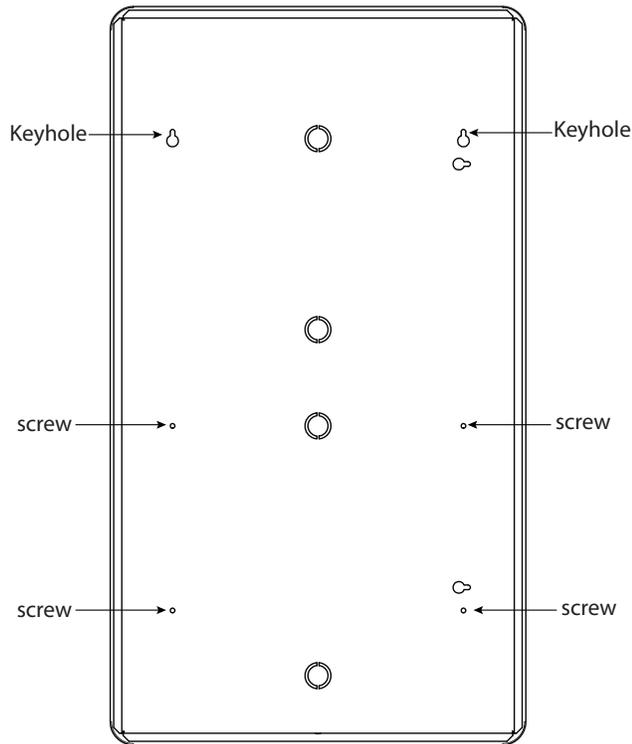

Figure 12. TX3-TOUCH-F22-C/D/E mounting holes
5. If you are using the keyholes, remove the enclosure and place 2 fasteners halfway into the wall into the marked keyhole locations. Then place the enclosure onto the top fasteners and lower it so that the fasteners fit in the narrow part of the keyholes, as shown in Figure 12. Ensure that at least one side is beside a wall stud.